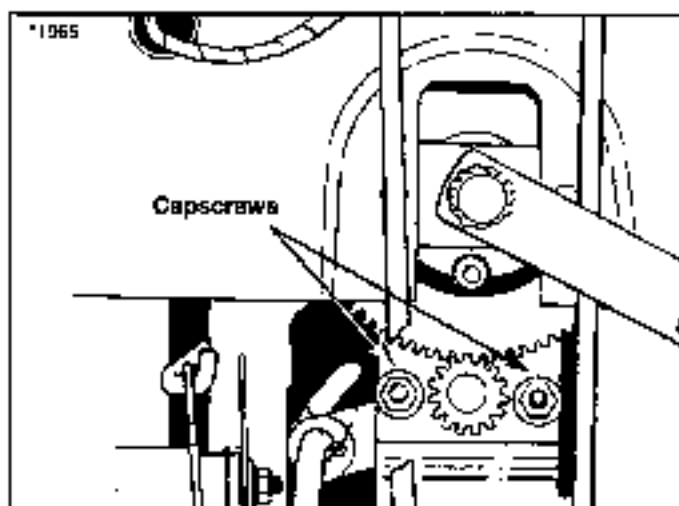

Figure 31. Steering Gear Adjustment
- See figure 31. Loosen the two capscrews and adjust the bracket so the gear teeth are closely meshed.